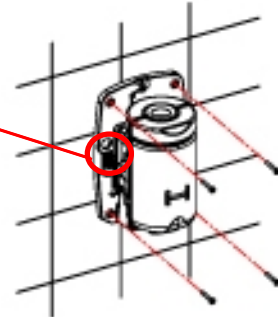

Figure 6
- Firmly screw the base of the device to the wall (Figure 6), ensuring that the 4 silent-blocks are correctly placed between the base and the wall.